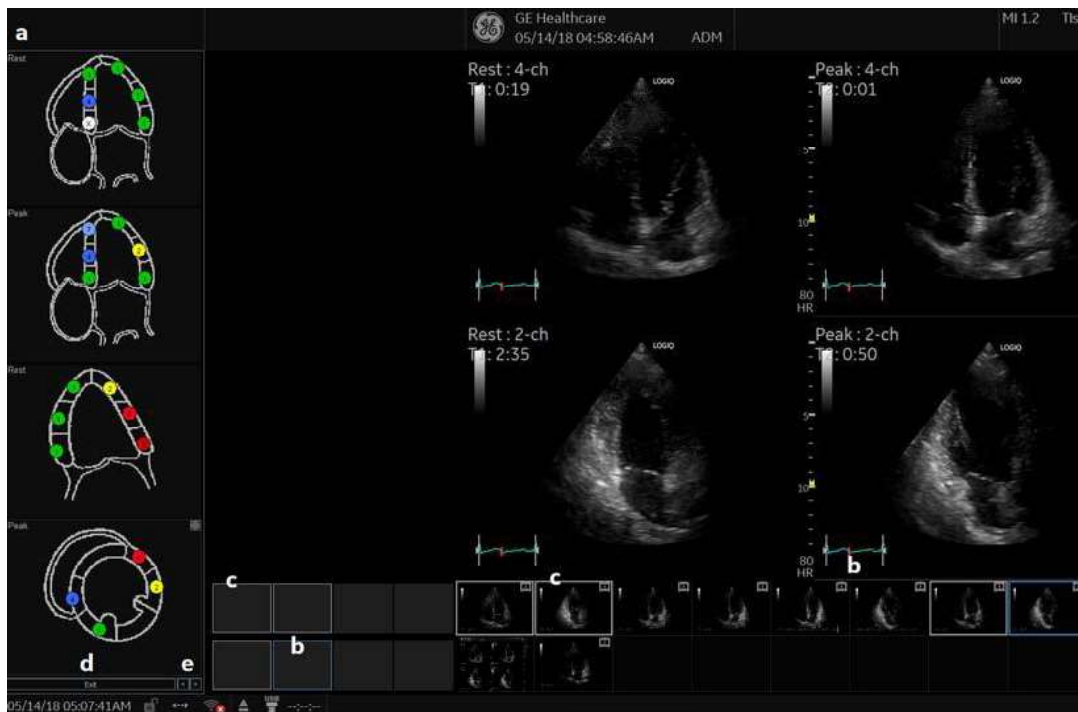

Figure 13-186. Analysis Screen
3. To advance to other groups, use the **Trackball** to move the cursor to the arrows at the bottom of the Wall Segment window. Select an arrow to advance to another group. For further clarification, see callout E in Figure 13-186 .